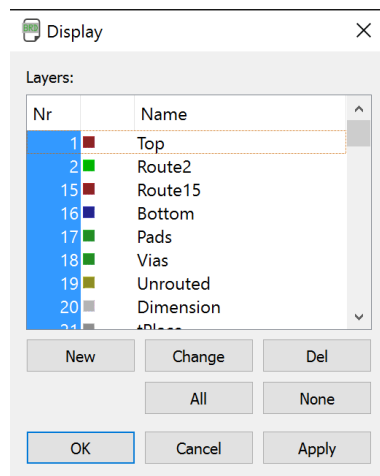

Figure 6 Layout Layer stack up
- The layer stack up is shown in Figure 6. We'll be using **Top** and **Bottom** layers for signal routing. **Route2** layer acts as power plane (We will be connecting it to an appropriate power output pin of the OSD335x later). **Route15** layer acts as ground plane.